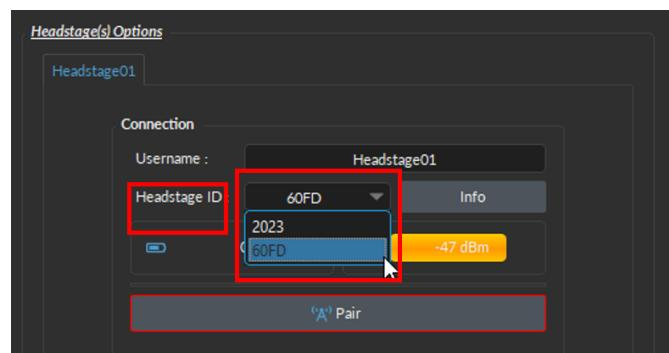

Figure 2.6: Select Head stage
4. Now in "Headstage ID" drop-down list, select the right headstage (Figure 2.6).